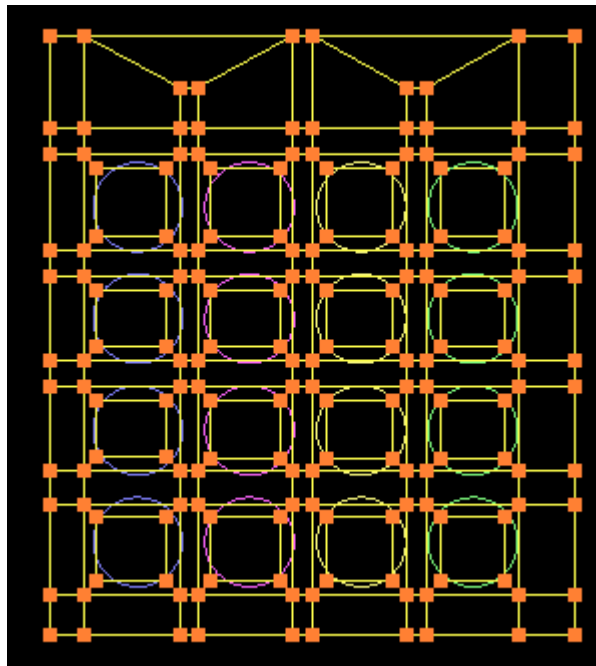

Figure 31.3
- Link the corners together to form a new block as in figure 31.3.